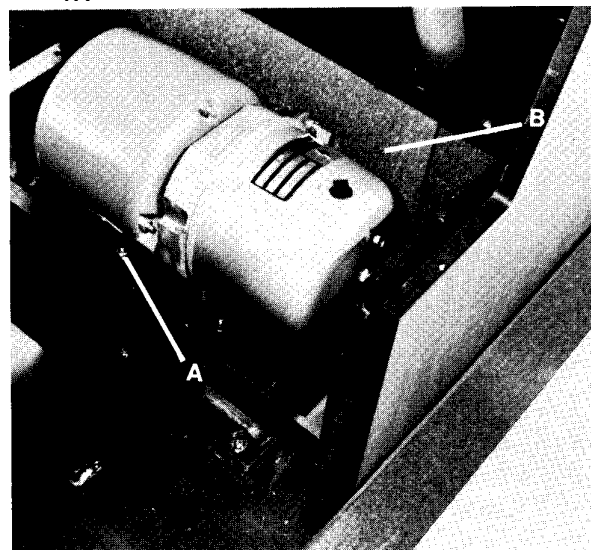

Fig. 41
- 2) Remove the (2) motor leads T3 and T2 from terminals #19 and #20, respectively, on the PC board. Remove the (1) motor lead T1 from the terminal board. See Wiring Diagram on Page 47.
- 4) Remove the (4) hex nuts, Item A, Fig. 41 securing the motor base in place.
- 12) Place motor base on shock mounts, align holes, and install (4) ¼" lockwashers and (4) ¼"-20 hex nuts, Item A, Fig. 41.
- 14) Replace the (2) motor leads T3 and T2 on terminals #19 and #20, respectively, on the PC board. Replace the (1) motor lead T1 on the terminal board. See Wiring Diagram on Page 47.